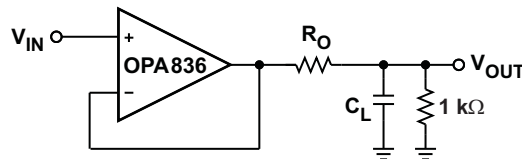
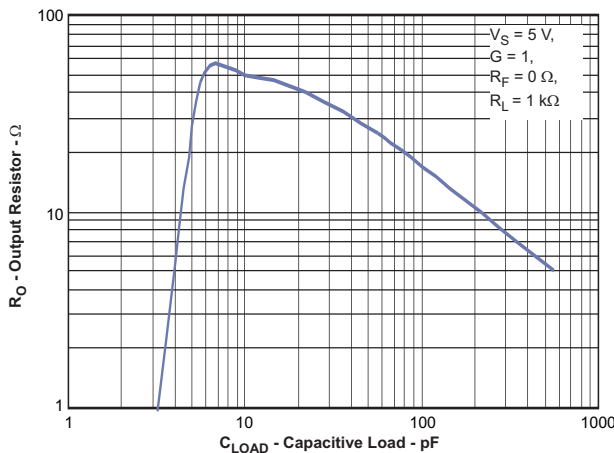
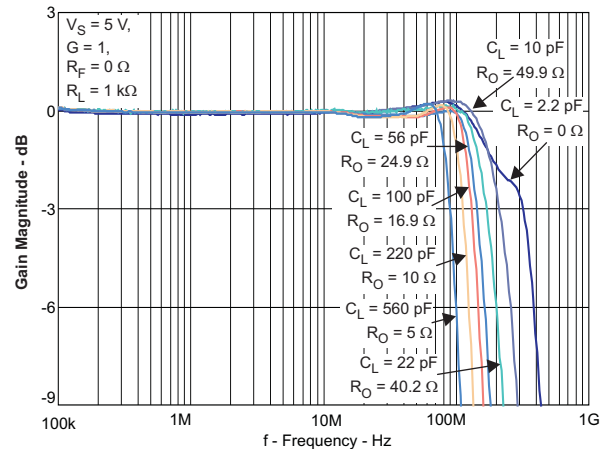

Figure 23.  $R_O$  versus  $C_L$  Test Circuit
Figure 24. Series Output Resistor vs Capacitive Load
Figure 25. Frequency Response with Capacitive Load
Figure 23 shows the test circuit and Figure 25 shows the recommended values of  $R_O$  versus capacitive loads,  $C_L$ . See Figure 24 for frequency response with various values.
4. A series output resistor is recommended to be placed as near to the output pin as possible. See "Series Output Resistor vs. Capacitive Load" (Figure 24) for recommended values given expected capacitive load of design.